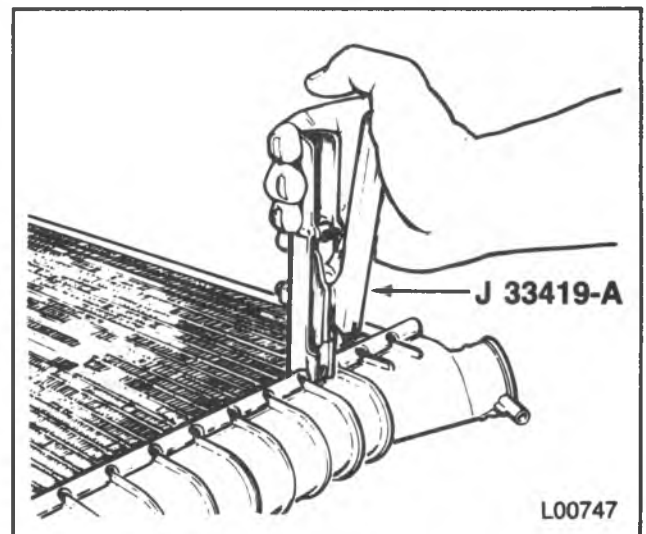

Figure 33 — Tightening the Clinch Tabs
Tank gasket leaks can be mistaken for tank or header leaks. If a plastic tank leaks from the header joint gasket, tighten the clinch tabs with J 33419-A or locking-type pliers (figures 33 and 34). If this method doesn't seal the leak, remove the tank for further inspection.
10. Clamp remaining clinch tabs around the header using J 33419-A or locking pliers (figures 33 and 34).